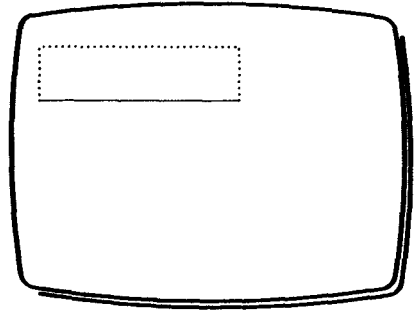

Fig 2
- 7 Position the box cursor as shown in Fig 2, making sure that none of the box is cut-off (i.e. outside the active area).